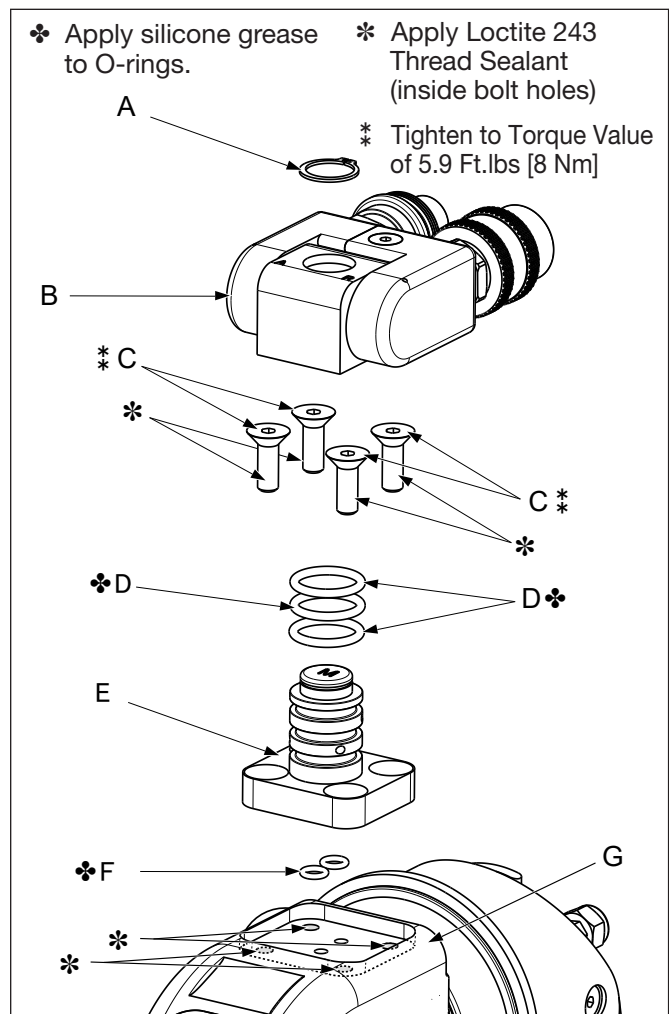

Figure 11: Removing Swivel Post and Swivel Assembly
7.2.1 Hydraulic Swivel Assembly (Fig.11)
Installation of the Swivel Post and Swivel Assembly (Fig.11)
1. Apply a small amount of Loctite 243 thread sealant to the threaded mounting holes in the wrench housing. See Fig. 11 for locations.
2. Install two new O-rings (F) into the ports on the base of the swivel post (E).
3. Place the swivel post (E) onto the wrench (G), making sure that hydraulic ports are aligned. Be careful that the O-rings (F) do not drop out or become pinched or cut.
4. Install the degreased socket head capscrews (C) and tighten to 5.9 Ft.lbs [8 Nm]